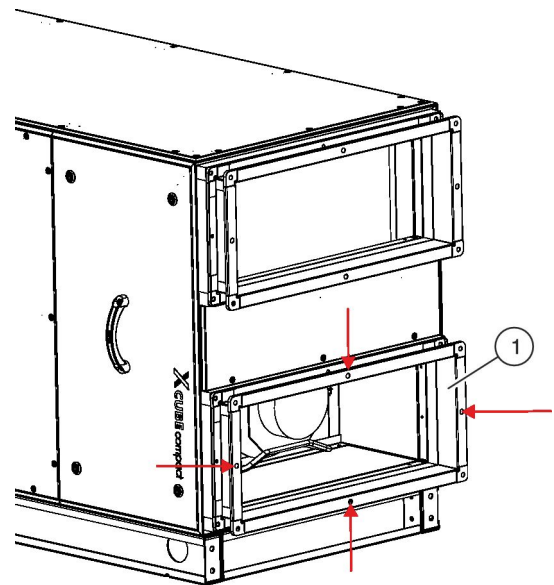

Fig. 20: Removing noise insulating connectors
- ▶ Remove the four Allen screws (M6x50) ( Fig. 20 /red arrows) from the noise insulating connector and take the noise insulating connector ( Fig. 20 /1) off.